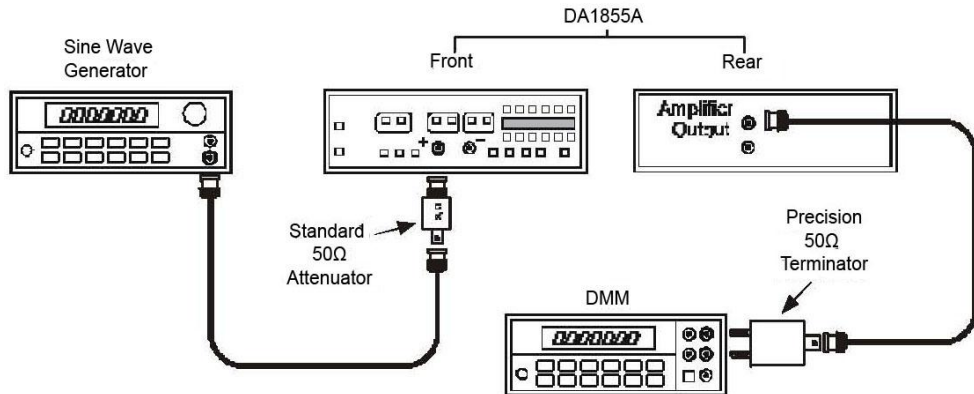

Figure 15, ±10 Attenuator Accuracy Setup.
- k. Connect the DA1855A **AMPLIFIER OUTPUT** cable/precision termination to the DMM. Refer to Figure 15.